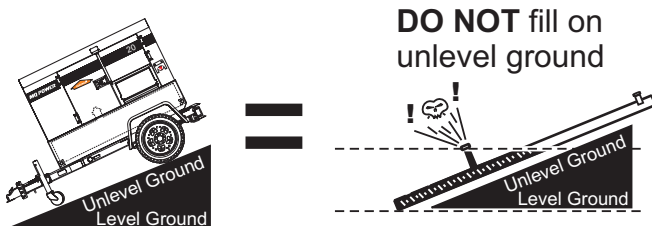

Figure 18. Only Fill On Level Ground
1. **Level Tanks** — Make sure fuel cells are level with the ground. Failure to do so will cause fuel to spill from the tank before reaching full capacity (Figure 18).